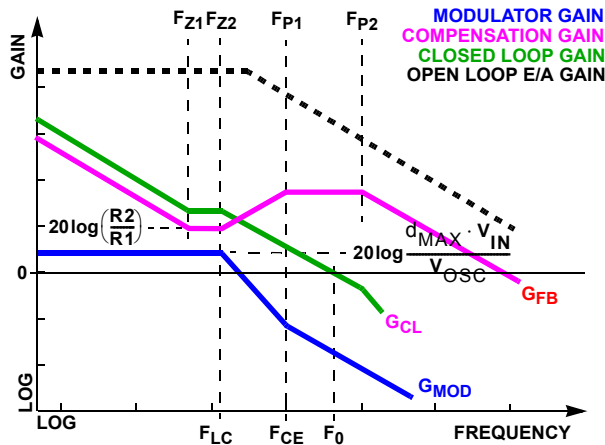

FIGURE 15. ASYMPTOTIC BODE PLOT OF CONVERTER GAIN
Figure 15 shows an asymptotic plot of the DC/DC converter's gain vs. frequency. The actual Modulator Gain has a high gain peak dependent on the quality factor (Q) of the output filter, which is not shown. Using the previously mentioned guidelines should yield a compensation gain similar to the curve plotted. The open loop error amplifier gain bounds the compensation gain. Check the compensation gain at  $F_{P2}$  against the capabilities of the error amplifier. The closed loop gain,  $G_{CL}$ , is constructed on the log-log graph of Figure 15 by adding the modulator gain,  $G_{MOD}$  (in dB), to the feedback compensation gain,  $G_{FB}$  (in dB). This is equivalent to multiplying the modulator transfer function and the compensation transfer function and then plotting the resulting gain.